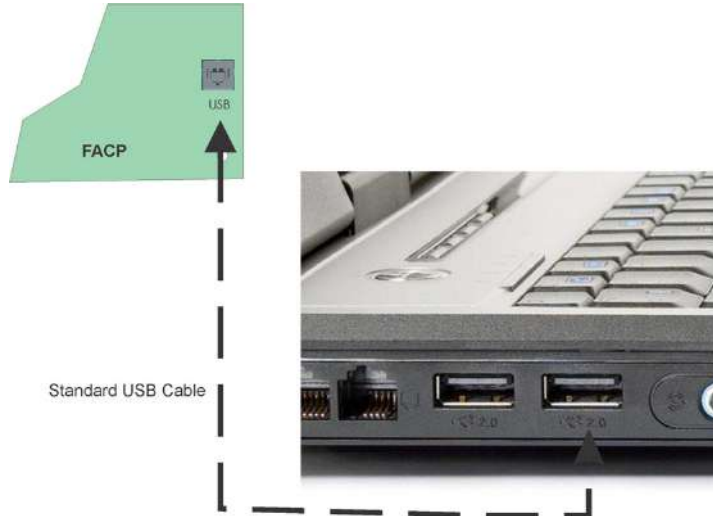

Figure 11.8 USB Cable Connections
2. Connect the PC to the FACP USB port using a standard USB cable. ECS-NVCM will use the USB on the FACP (See Figure 11.8). ECS-VCM will use the USB port on the ECS-VCM.